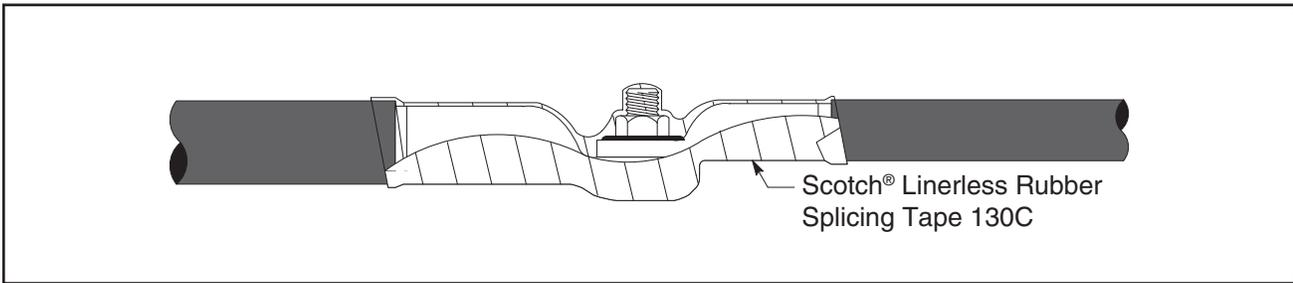

Figure 4
3.5 Cover the lugs and bolt with four half-lapped layers of Scotch® Linerless Rubber Splicing Tape 130C (*Figure 4*).